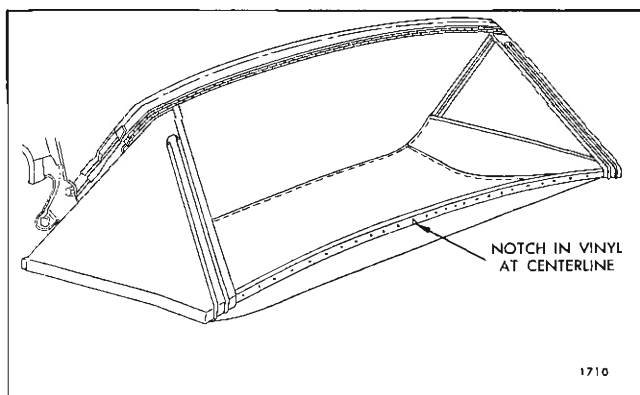

Fig. 2-I-12 — Back Curtain Installation
8. Tack curtain to rear and rear quarter trim sticks. On right side, tack zipper tape to forward edge of rear quarter trim stick. (Fig. 2I13).